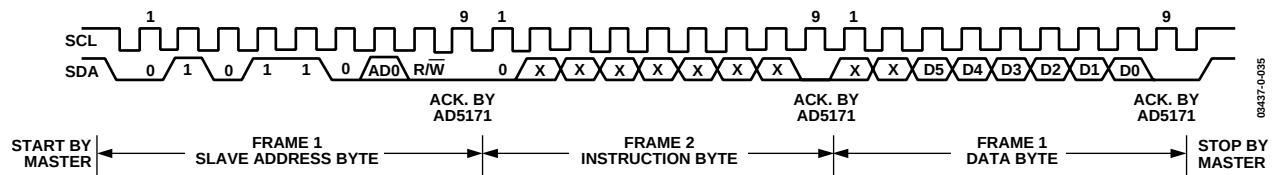
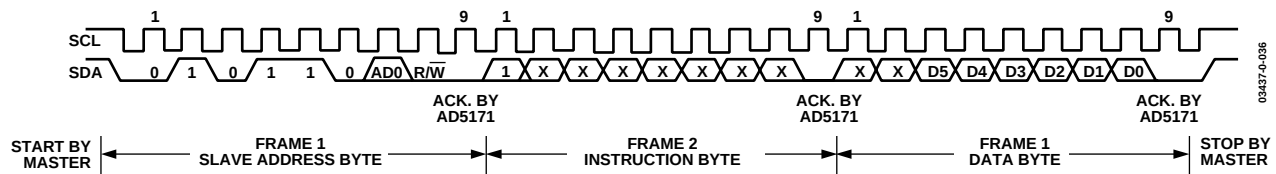
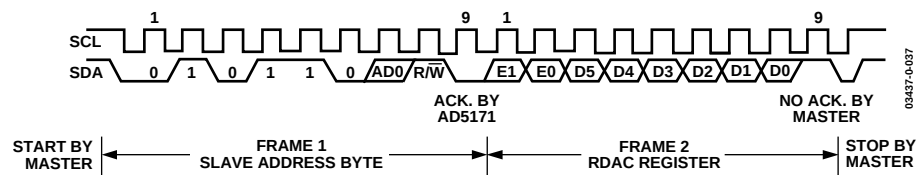
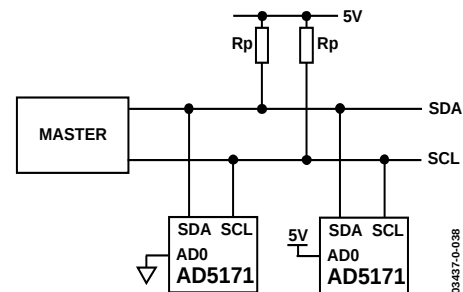

Figure 36. Writing to the RDAC Register
Figure 37. Activating One-Time Programming
Figure 38. Reading Data from RDAC Register
Figure 39. Two AD5171 Devices on One Bus
For users who prefer to use external controllers, the AD5171 can be controlled via an I²C compatible serial bus; the part is connected to this bus as slave device. Referring to Figure 36, Figure 37, and Figure 38, the 2-wire I²C serial bus protocol operates as follows:
1. The master initiates data transfer by establishing a start condition, which is when SDA goes from high-to-low while SCL is high (Figure 36 and Figure 37). The following byte is the slave address byte, which consists of the 6 MSBs as a slave address defined as 010110. The next bit is AD0, which is an I²C device address bit. Depending on the states of their AD0 bits, two AD5171 can be addressed on the same bus (Figure 39). The last LSB is the R/ $\overline{W}$ bit, which determines whether data is read from or written to the slave device.
2. The write operation contains one more instruction byte than the read operation. The instruction byte in the write mode follows the slave address byte. The MSB of the instruction byte labeled T is the one-time programming bit. After acknowledging the instruction byte, the last byte in the write mode is the data byte. Data is transmitted over the serial bus in sequences of nine clock pulses (eight data bits followed by an Acknowledge bit). The transitions on the SDA line must occur during the low period of SCL and remain stable during the high period of SCL (Figure 36).
3. In the read mode, the data byte follows immediately after the acknowledgment of the slave address byte. Data is transmitted over the serial bus in sequences of nine clock pulses (slight difference with the write mode; there are eight data bits followed by a No Acknowledge bit). Similarly, the transitions on the SDA line must occur during the low period of SCL and remain stable during the high period of SCL (Figure 38).
4. When all data bits have been read or written, a stop condition is established by the master. A stop condition is defined as a low-to-high transition on the SDA line while SCL is high. In the write mode, the master pulls the SDA line high during the 10th clock pulse to establish a stop condition (Figure 36 and Figure 37). In the read mode, the master issues a No Acknowledge for the 9th clock pulse, i.e., the SDA line remains high. The master then brings the SDA line low before the 10th clock pulse, which goes high to establish a stop condition (Figure 38).
Figure 39 shows two AD5171 devices on the same serial bus. Each has a different slave address since the state of each AD0 pin is different. This allows each device to be operated independently. The master device output bus line drivers are open-drain pull-downs in a fully I²C compatible interface.